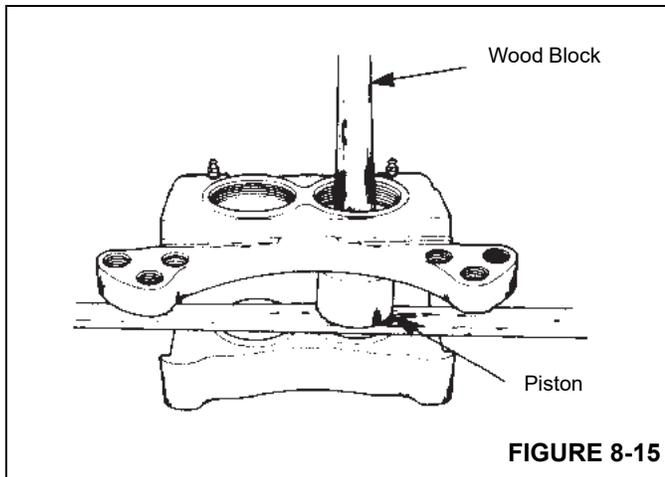

FIGURE 8-15
8. Remove the pistons from the mounting plate side of the housing. Push on the ends of the pistons to force them out of the disc side of the housing. Refer to Figure 8-15.